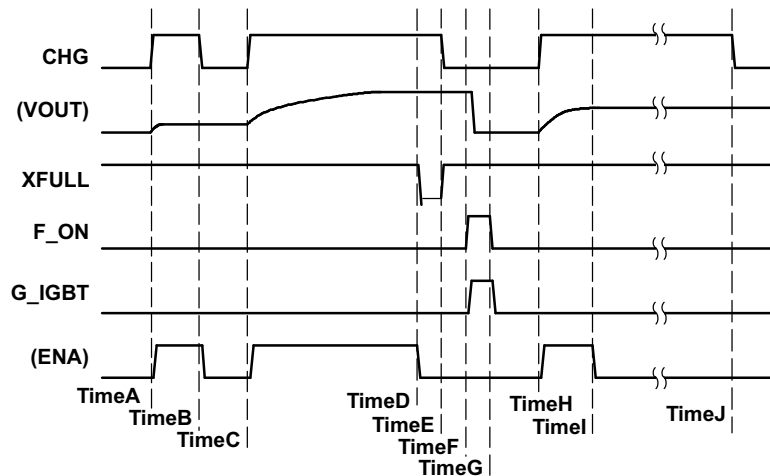

Figure 4. Whole Operation Sequence Chart
The only way to *start* charging is to input  $\text{CHG}\uparrow$  (see time A/C/H in Figure 4). Each time  $\text{CHG}\uparrow$  is applied, the TPS65560 starts charging.
1. Forced *stop* by inputting  $\text{CHG} = \text{L}$  from the controller (see timeB in Figure 4).
2. Automatic *stop* by detecting a full charge.  $\text{VOUT}$  reaches the target value (see TimeD in Figure 4).
3. Protected *stop* by detecting an over current function ( $\text{OV}_{\text{DS}}$ ) trigger at SW pin (see TimeI in Figure 4).
The device starts charging at *timeH*, and  $\text{OV}_{\text{DS}}$  protection occurs at *TimeI* (see Figure 4). At *TimeI*, XFULL stays H. At *TimeJ*, the controller detects  $\text{OV}_{\text{DS}}$  protection through the expiration of a timer and then sets CHG to low to terminate the operation.
The TPS65560 provides an overvoltage monitor function of the SW pin. The TPS65560 is latched off if the voltage on the SW pin is above  $OV_{DS}$  during the switch ON time (see Figure 4 and its descriptions).